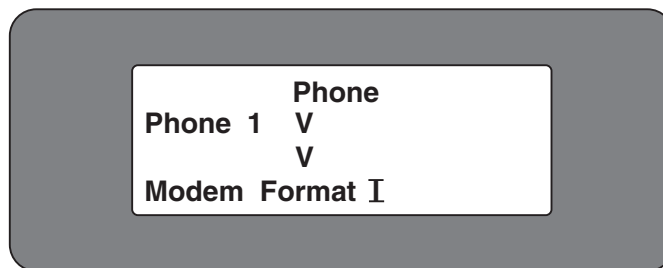

Figure 18: MAKING A PROGRAM ITEM INVISIBLE
8. At the program item level, the letter **V** appears to the right of the program item prompt – where program item data would normally be entered (see Figure 18). To make the item invisible, press the letter **I** and the white **ENTER** key. To make an invisible item visible, use **V**. **I** and **V** can be toggled by pressing the **SPACE** bar.